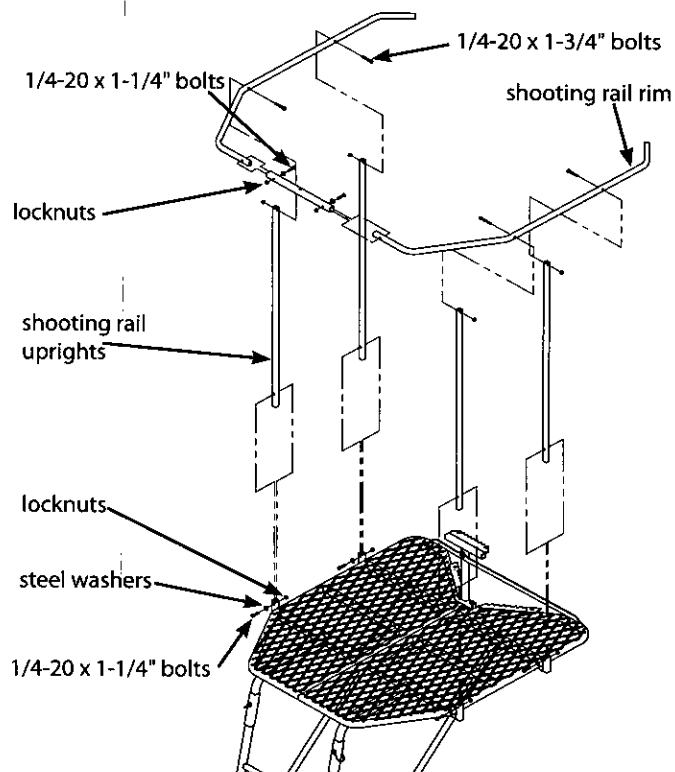

Figure 5
8. Using the end with the greater distance from hole to end of tube, insert (4) shooting rail uprights (112ML72) into pockets of platform spanner tubes. Secure each upright in the pocket using (4) 1/4-20 x 1-1/4" bolts, locknuts and steel washers. **SEE FIGURE 5.**
9. Insert (2) curtain/shooting rail rims (112ML71) into each end of the rail spanner tube (TWR26) and secure using (2) provided 1/4-20 x 1-1/4" bolts, locknuts and steel washers. **SEE FIGURE 5. Pay special attention to the orientation of shooting rail rims in Figure 5.**
10. Attach the assembled shooting rail to the inside of shooting rail uprights using (4) provided 1/4-20 x 1-3/4" bolts & locknuts. **SEE FIGURE 5. You must now tighten all nut & bolt assemblies. Be sure not to over tighten or crush tubing when tightening!**